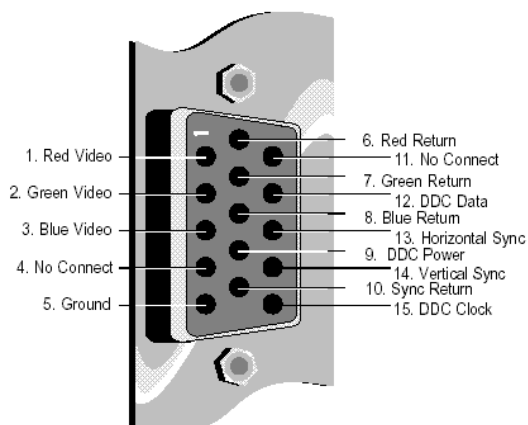

Figure 3: VGA socket pin description.
The three analog voltage level generated by these DACs (RGB), together with the *Horizontal Sync* (HS) and the *Vertical Sync* (HS) are connected to a PCB mounted, 15-pin sub-HD socket (standard VGA). Figure 3 describes the mapping of these pins in socket and table 3 summarizes the function of each pin.